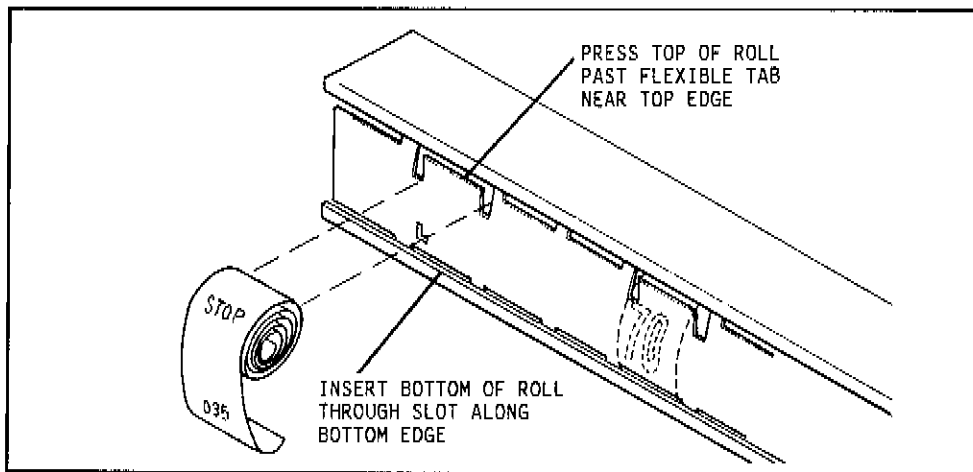

Figure S-17b
- * Insert the dollar roll in the left-most pair of slots if the price is \$1.00 or more. See Figure S-17b.
- * Insert the cents roll in the center pair of slots. See Figure S-17b.